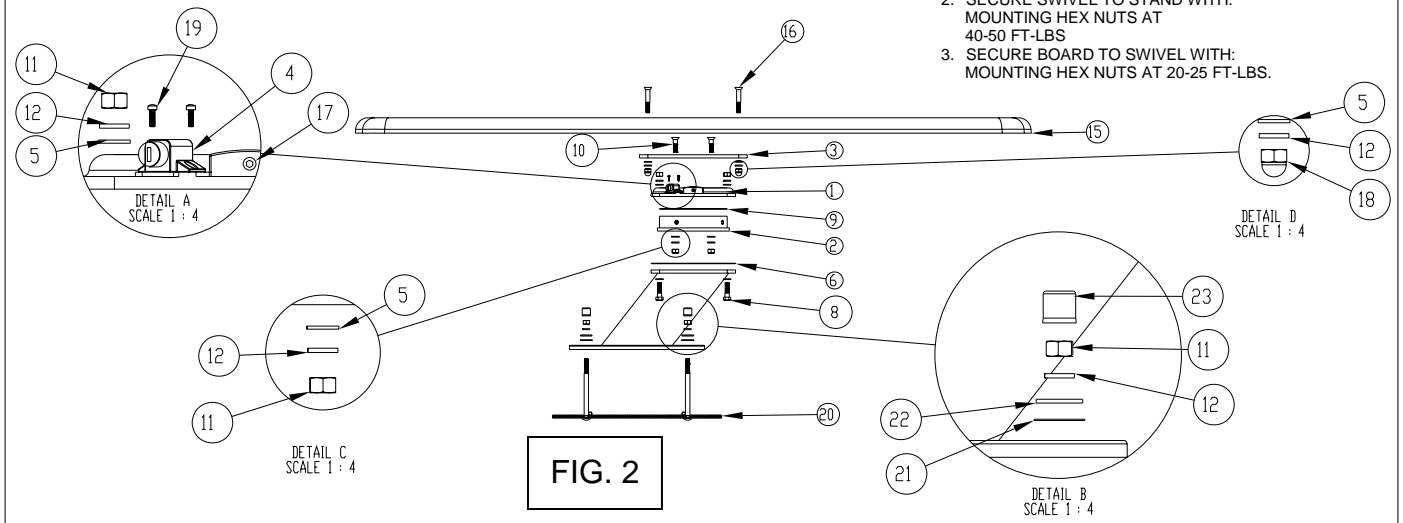

FIG. 2
CAUTION: Before pouring concrete around Jig, check the bolt pattern of Jig to Fig. 2. It is possible that they have become misaligned through shipping and handling.
6. Place stand over jig bolts and secure according to Fig. 2. Tighten ANCHOR hex nuts. Use TIGHTENING SCHEDULE in Fig. 2 when tightening all MOUNTING and ANCHOR hex nuts.
7. Bolt the swivel to the stand base according to Fig. 2.
8. Place top plate on swivel and secure according to Fig. 2. Tighten MOUNTING hex nuts.
9. With FUSION SWIVEL STAND properly secured, install diving board to top plate according to Figure 2 and tighten MOUNTING hex nuts.